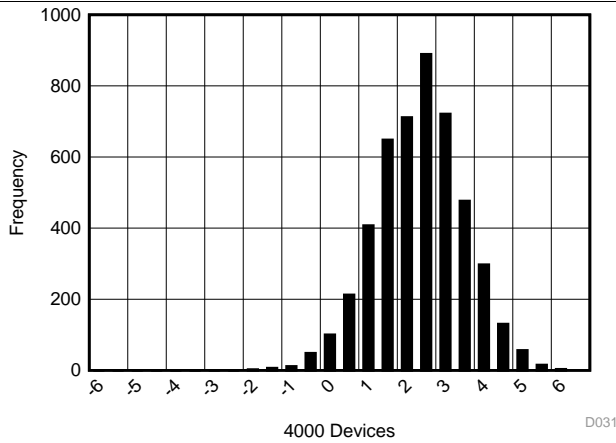
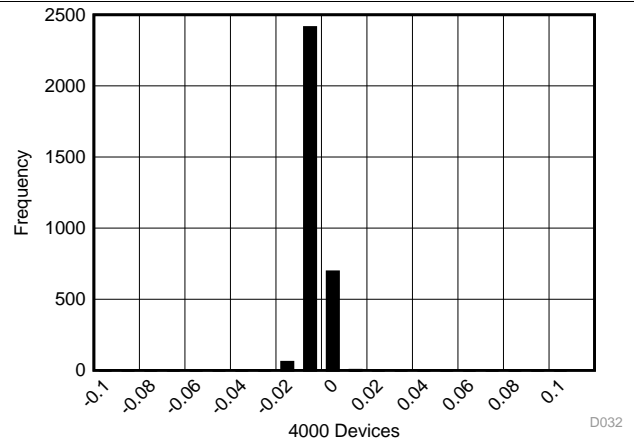

Figure 29. Typical Offset Error Distribution
Figure 30. Typical Gain Error Distribution
(1) Ideal input span; does not include gain or offset error.
(2) See Figure 31, Figure 29, and Figure 30 for statistical distribution data for INL, offset error, and gain error.
(3) LSB means least significant bit.
(4) See the *OFFCAL State* section for details.
(5) All specifications expressed in decibels (dB) refer to the full-scale input (FSR) and are tested with an input signal 0.5 dB below full-scale, unless otherwise noted.
(6) Calculated on the first nine harmonics of the input frequency.